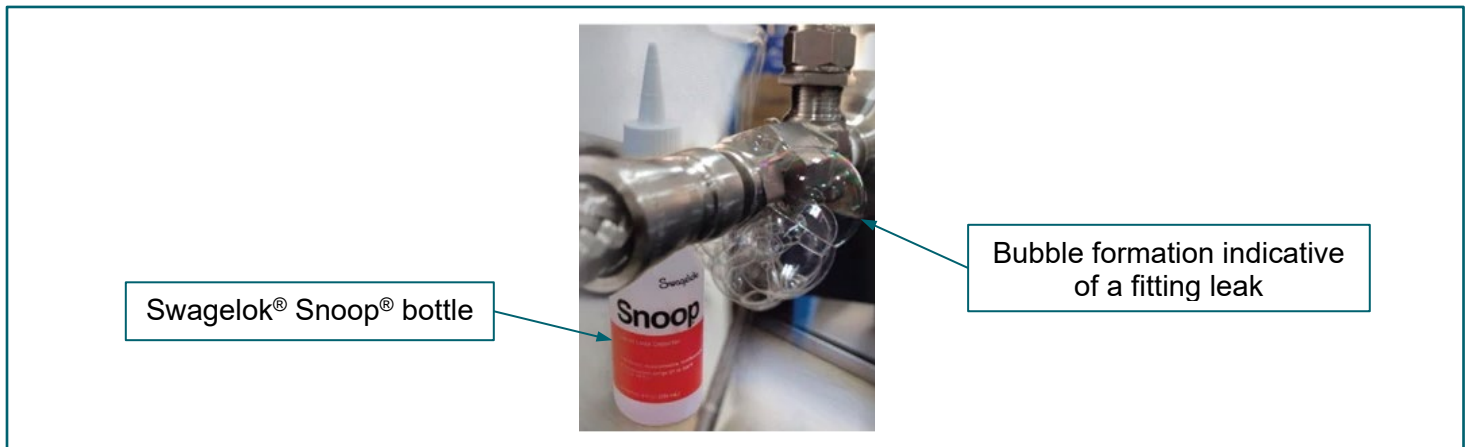

FIGURE 4-4. Swagelok® Snoop®, bubbles forming at a fitting junction
- Apply Swagelok® Snoop® leak detection solution to all fuel system connections and wait 3 minutes. **FIGURE 4-4**